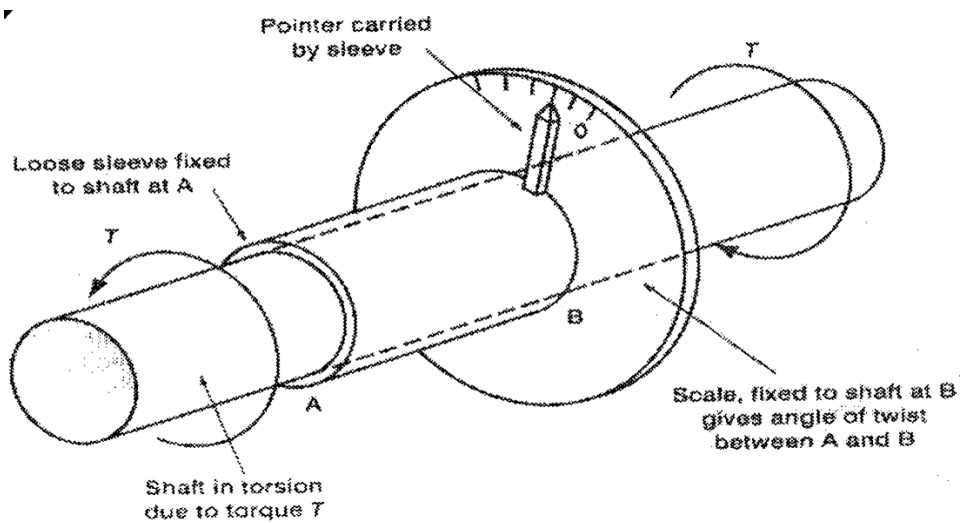

Figure 4.8 Torque measurement from angle twist of shaft
a) Use the principle that one end of a shaft twists relative to the other in proportion to the torque applied., see Figure 4.8.